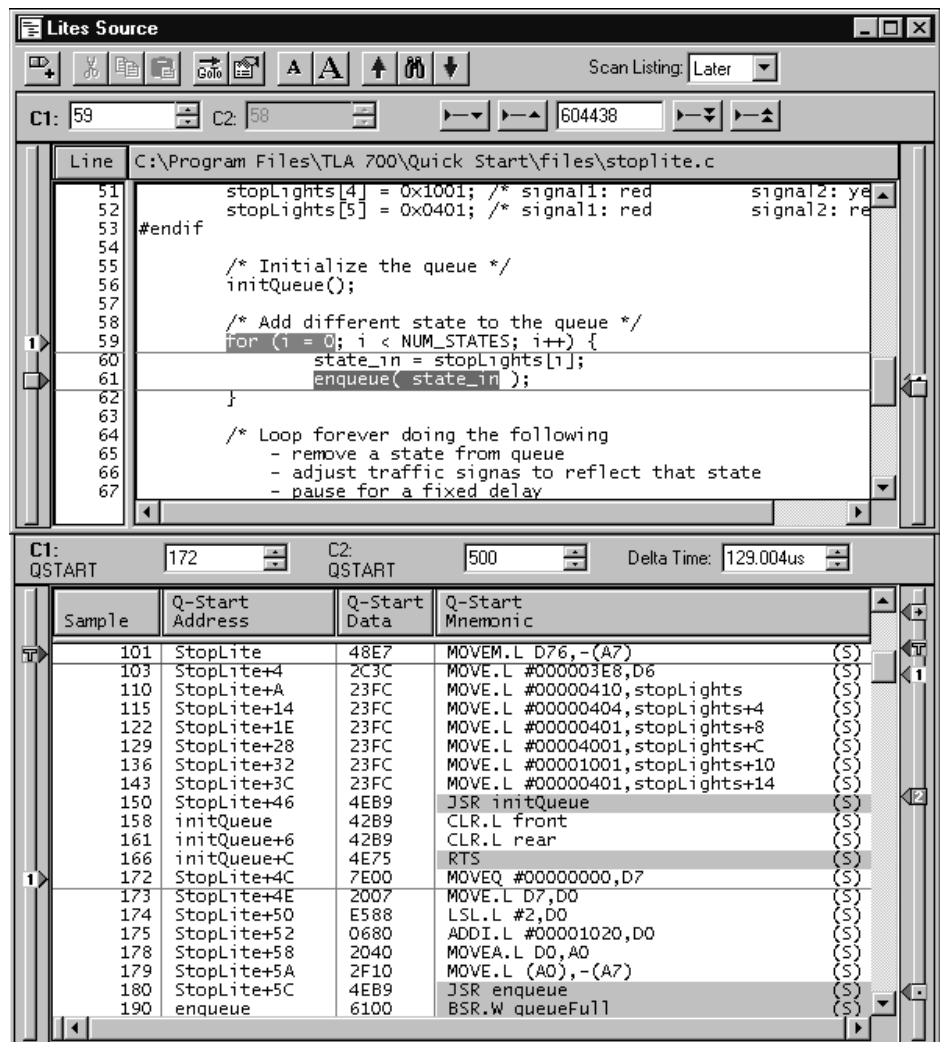

Figure 4–8: Source and Listing windows after placing a mark (step 1)
1. Position the mouse pointer anywhere over the source statement at line 61 in the current file (stoptlite.c), right-click the mouse, and select “Add Mark Here.” Figure 4–8 shows the results after this operation.
- Click once on the “Next Mark” button (item E in Figure 4–13 on page 4–20) and the active cursor (cursor 1) moves to the marked location as shown in Figure 4–9.